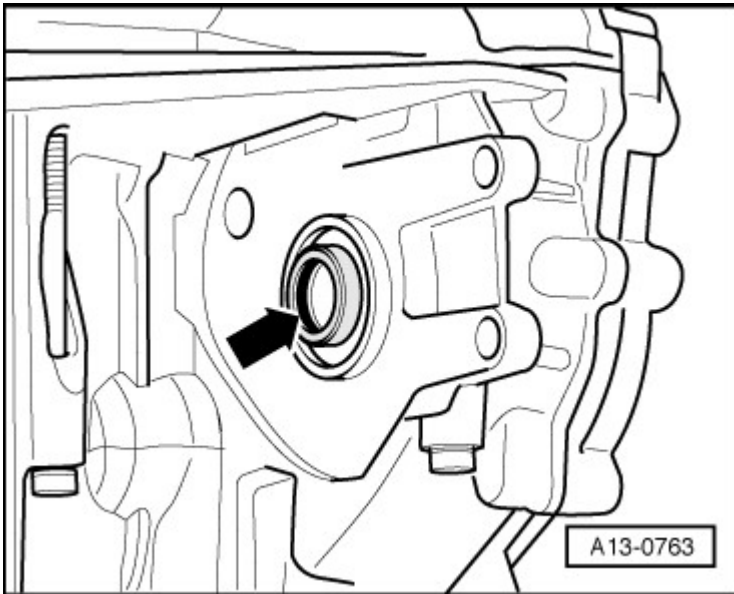

Fig. 11: Checking Power Steering Pump Input Shaft O-Ring
- Semi-circular seal installation location, refer to **Fig. 11**